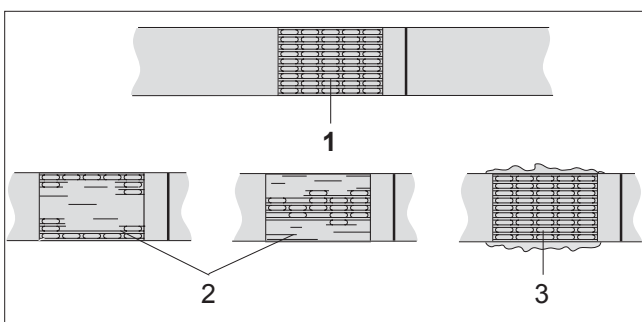

Fig. 12 Checking of seal
- Check appearance of seal (see fig. 12) regularly. If the straps are poorly welded, **check the welding time setting (refer to chapter 6.3.3)**.